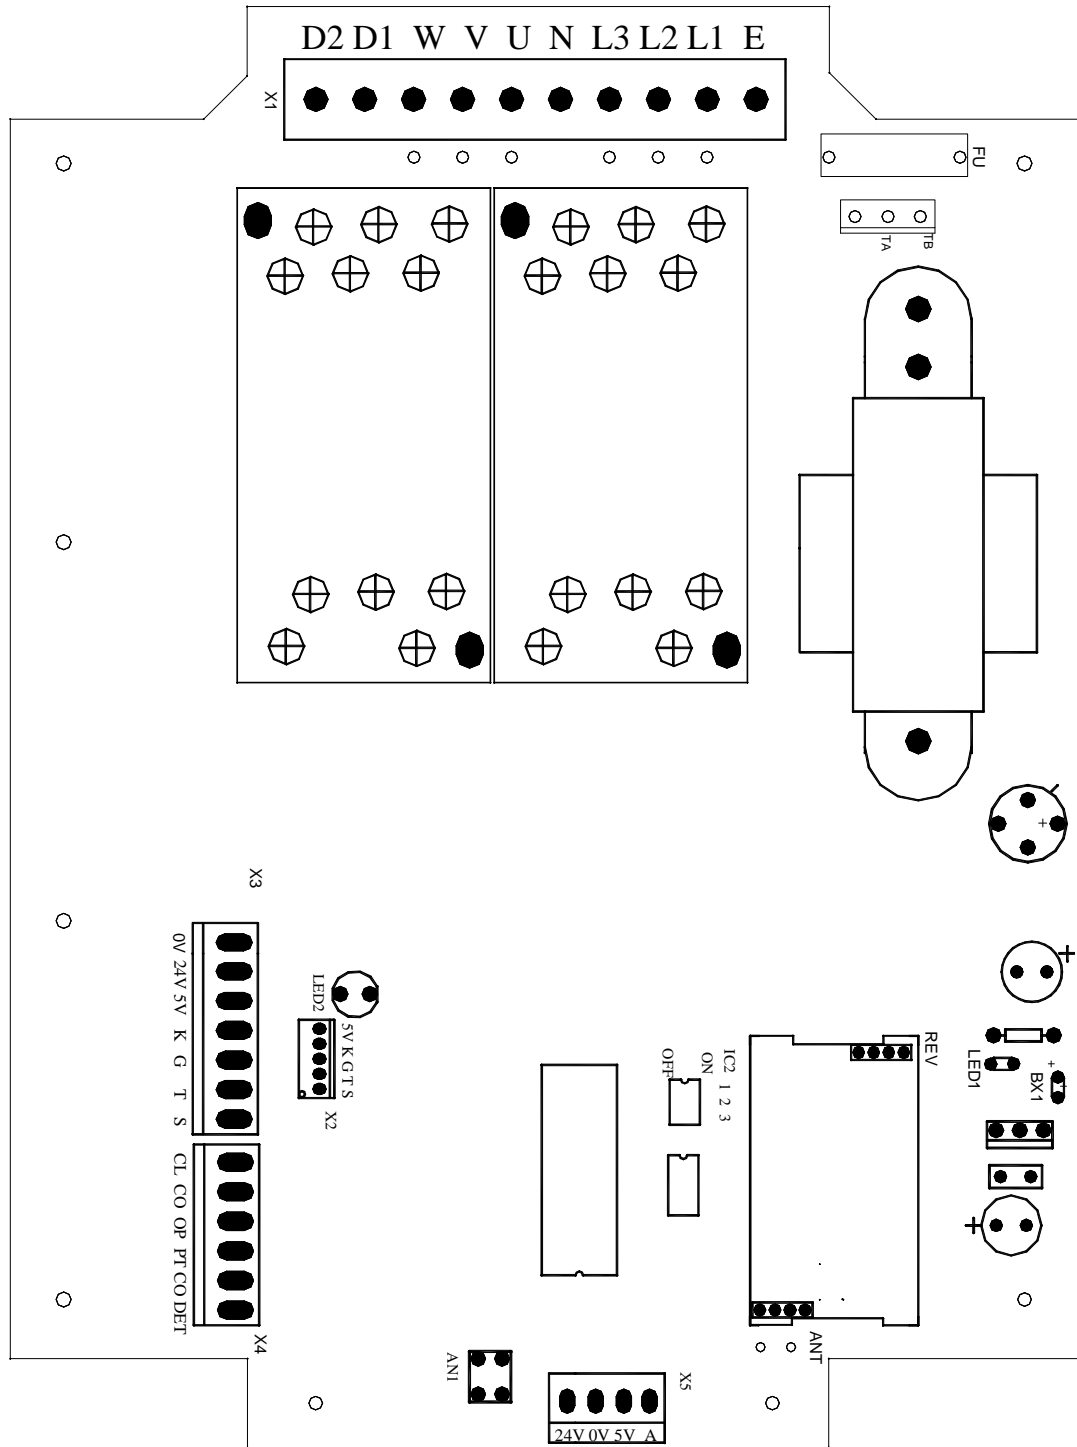

Fig. 8 RSI-50 Control board diagram
| RSI-50 | <ul style="list-style-type: none"> • Connect phase wires (380V) to 'L1', 'L2', 'L3'. Connect neutral wire to 'N', connect ground wire to 'E'. Note: turn the power on, if the 'LED2' is flashing, disconnect from mains supply, then reverse any two phase wires. • Connect motor wire (blue, brown, black) to 'U', 'V', 'W', ground wire to 'E'. If door running direction is wrong, please exchange wires 'U' and 'V'. (See Fig.8 X1 terminal block) • Connect close limit wire (red) to 'CL', connect common wire (white) to 'CO', connect open limit wire (green) to 'OP'. (See Fig.8 X4 terminal block) • Connect signal wires of photocell (N.C.) to 'PT' and 'CO' and power wires to '24V' and '0V'. Connect safety edge switch wires to 'PT' and 'CO'. • Connect extral single button switch (N.O.) wires to 'DET' and 'CO', if connected, the short bridge must be removed. (See Fig.8 X3, X4 terminal block) • Connect external three button switch (N.O.) to 'K', 'G', 'T' and 'S'. K-open (white), G-close (yellow), T-stop (red), S-common wire (green). (See Fig.8 X3 terminal block) • D1,D2: alarm lamp(AC220V) |
| After using the hand chain, the operator does not work after you press control box button or transmitter. | An automatic reset is not carried out. | Pull the hand chain see Fig.8 (1) to carry out an automatic reset. (See Hand chain section) |